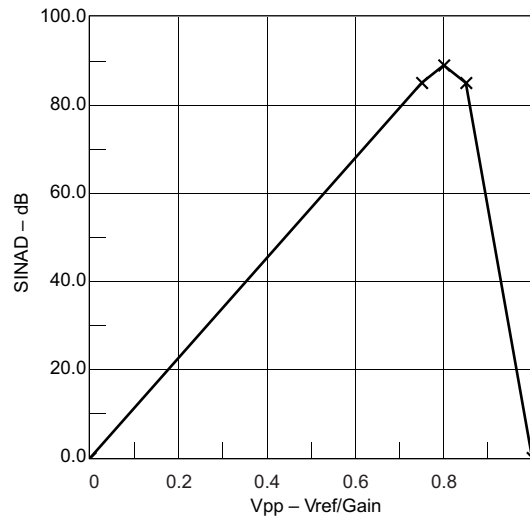

**Figure 5-18. SINAD vs  $V_{pp}$**
(1) The following voltages were applied to the SD24\_B inputs:  $V_{I,A+}(t) = 0\text{ V} + V_{PP} / 2 \times \sin(2\pi \times f_{IN} \times t)$  and  $V_{I,A-}(t) = 0\text{ V} - V_{PP} / 2 \times \sin(2\pi \times f_{IN} \times t)$  resulting in a differential voltage of  $V_{ID} = V_{I,A+}(t) - V_{I,A-}(t) = V_{PP} \times \sin(2\pi \times f_{IN} \times t)$  with  $V_{PP}$  being selected as the maximum value allowed for a given range (according to SD24\_B recommended operating conditions) (also see Figure 5-18).